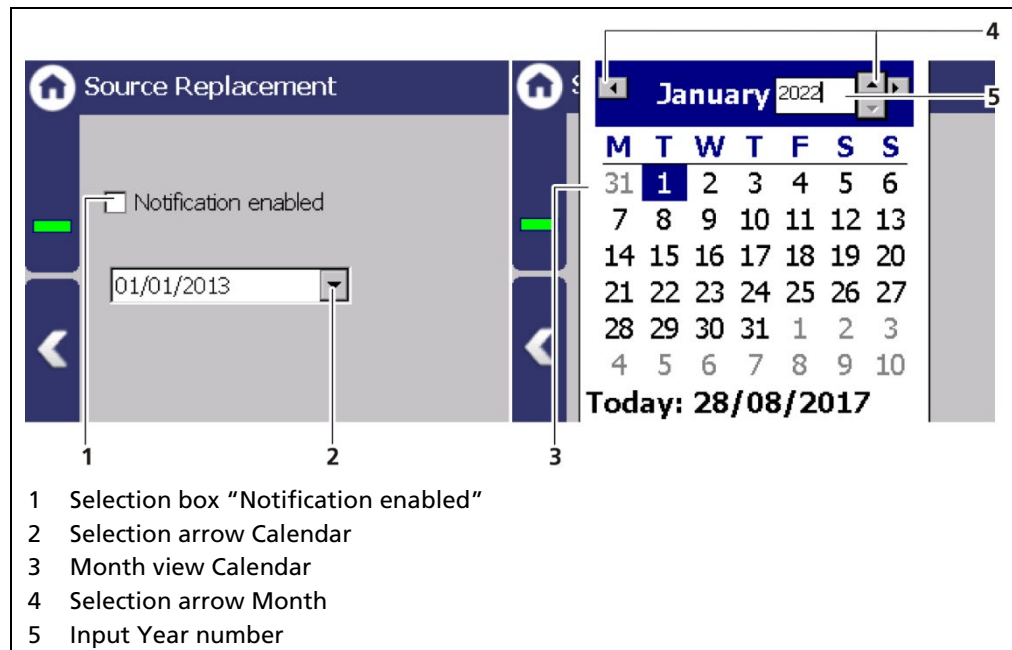

Fig. 108 Source Replacement
When Rapid Switch (Fig. 108, item 1) is activated, there is a rapid reaction (Fig. 108, item 2) to a quick change in level. The time constant in this case is set to 1/10. After that, the time constant is reset to the original value. A change in level is considered to be a "rapid" change when the count rate is changing more than the entered sigma value within a short time. The sigma value can be adjusted to the process. A sigma of 4.0 is factory set at delivery.
1. Activate the check box (Fig. 108, item 1).
2. Click on the arrow key (Fig. 108, item 2) in order to set the date.
3. Click on the year (Fig. 108, item 5) to select the year with the arrow keys.